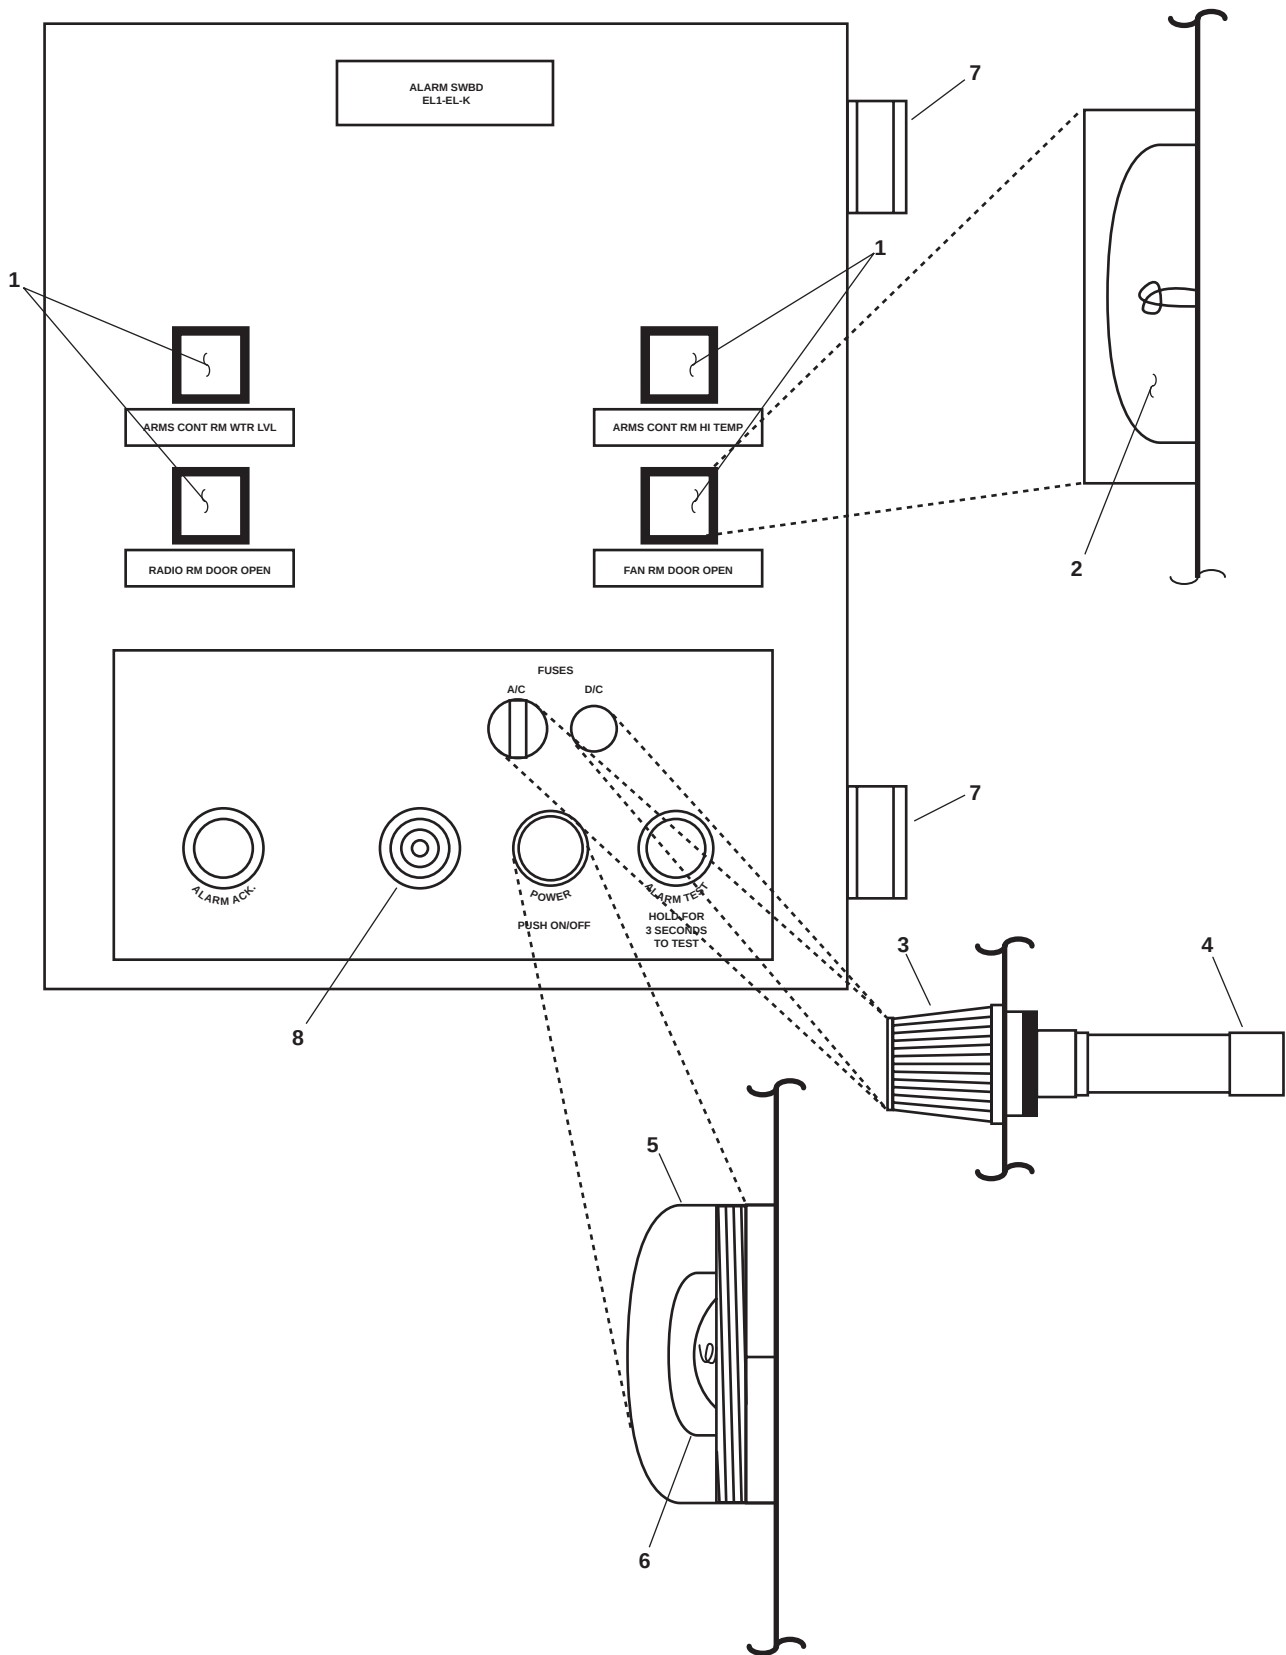

Figure 1. Alarm Panel Components (Exterior View)
1. Remove the square protective lens cover (figure 1, item 1).
2. Remove the lamp (figure 1, item 2).
1. Install the lamp (figure 1, item 2) finger tight.
2. Install the protective lens cover (figure 1, item 1).
1. Remove the fuse holder (figure 1, item 3) from the panel.
2. Remove the fuse (figure 1, item 4) from the fuse holder (figure 1, item 3).
1. Install the fuse (figure 1, item 4) in the fuse holder (figure 1, item 3).
2. Install the fuse holder (figure 1, item 3) in the panel.
1. Remove the protective lens cover (figure 1, item 5).
2. Remove the lamp (figure 1, item 6) from the panel.
1. Install the new lamp (figure 1, item 6) finger tight.
2. Install the protective lens cover (figure 1, item 5) on the panel.
2. Loosen the two clamping screws (figure 1, item 7) and open the front panel.